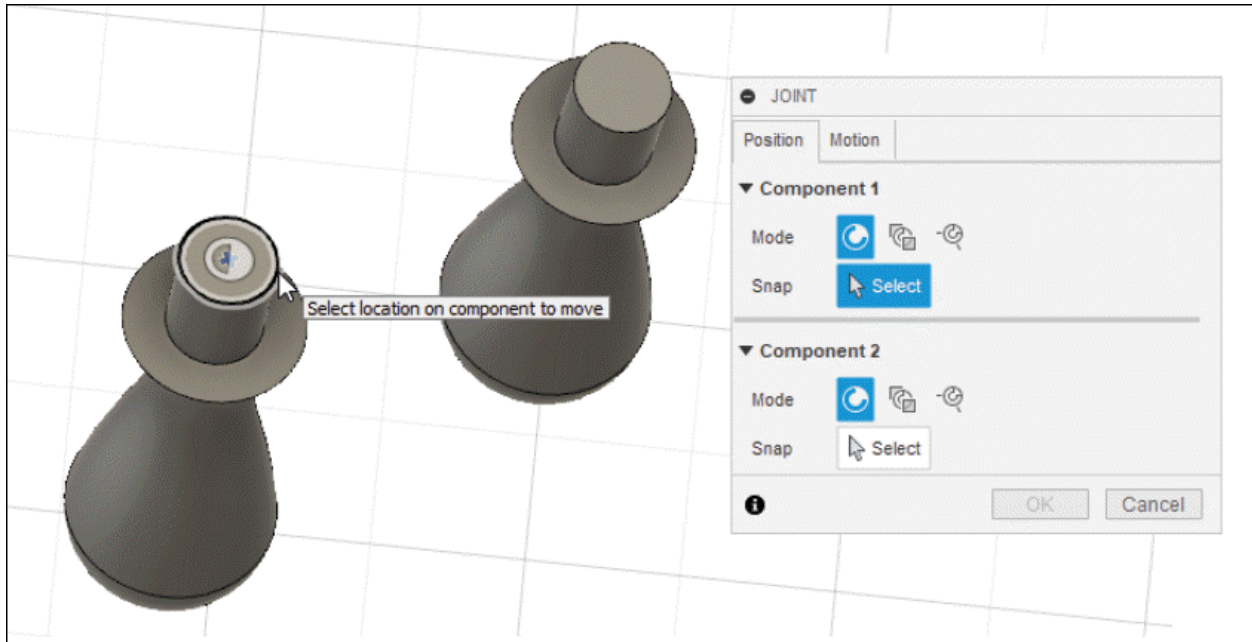

Figure-76. Selection of location on Component 1
- The **Select** button of **Snap** section from **Component 1** area in **Position** tab is selected by default. Click on the component to join; refer to Figure-76.